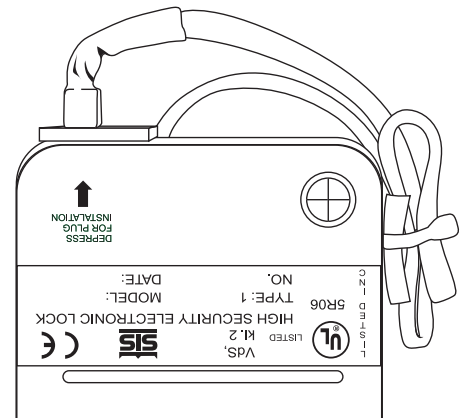

Figure 10
- ⑮ Secure entry cable with tywrap, making sure that any extra cable is in a safe position and cannot be damaged by any moving parts or sharp edges, see *Figure 10*.